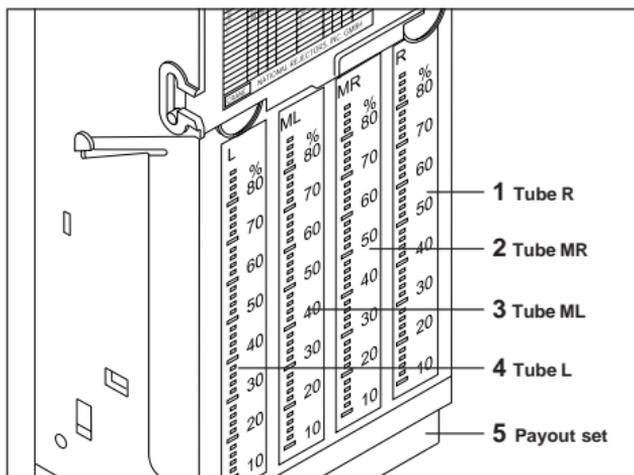

Abb. 3: Payout unit
Paying out of change is done by means of two motors installed in the bottom of the payout set **5**, which turn in order to pay out coins. The left-hand motor is responsible for the "left (L)" **4** and "middle left (ML)" **3** tubes and the right-hand motor is responsible for the "right (R)" **1** and "middle right (MR)" **2** tubes. (See Fig. 3)